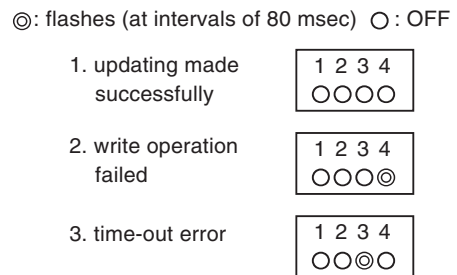

Figure 3-28
- Press the push switch (PSW1) to store the new setting, upon which the LED go OFF. if the LEDs flash or remain ON, enter the setting once again. (See Figure 3-28.)